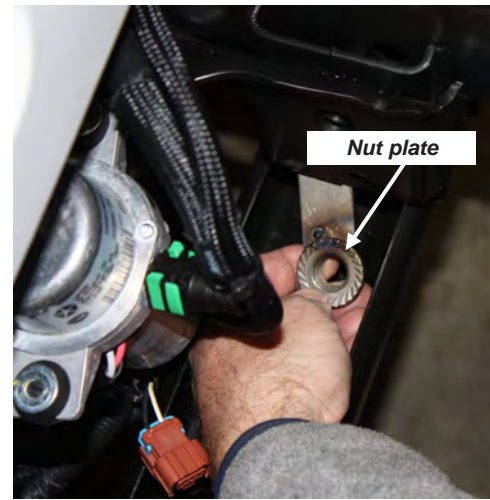
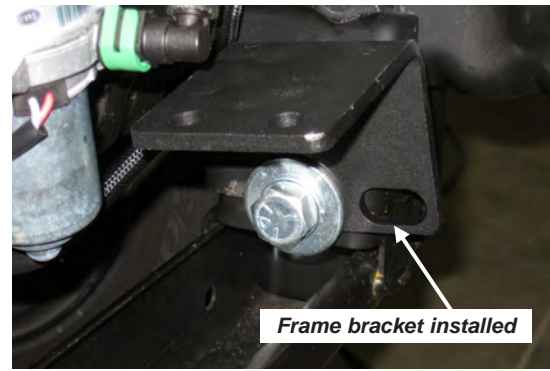

Figure 13
Figure 14
10. Install the Frame Brackets. The brackets are the same. Use 5/8 X 1-1/2" bolts and flat washers through the rear slot. Use the 5/8" nut plates inside the frame. Figure 13. Position them as shown in Figures 14. Do not tighten yet.